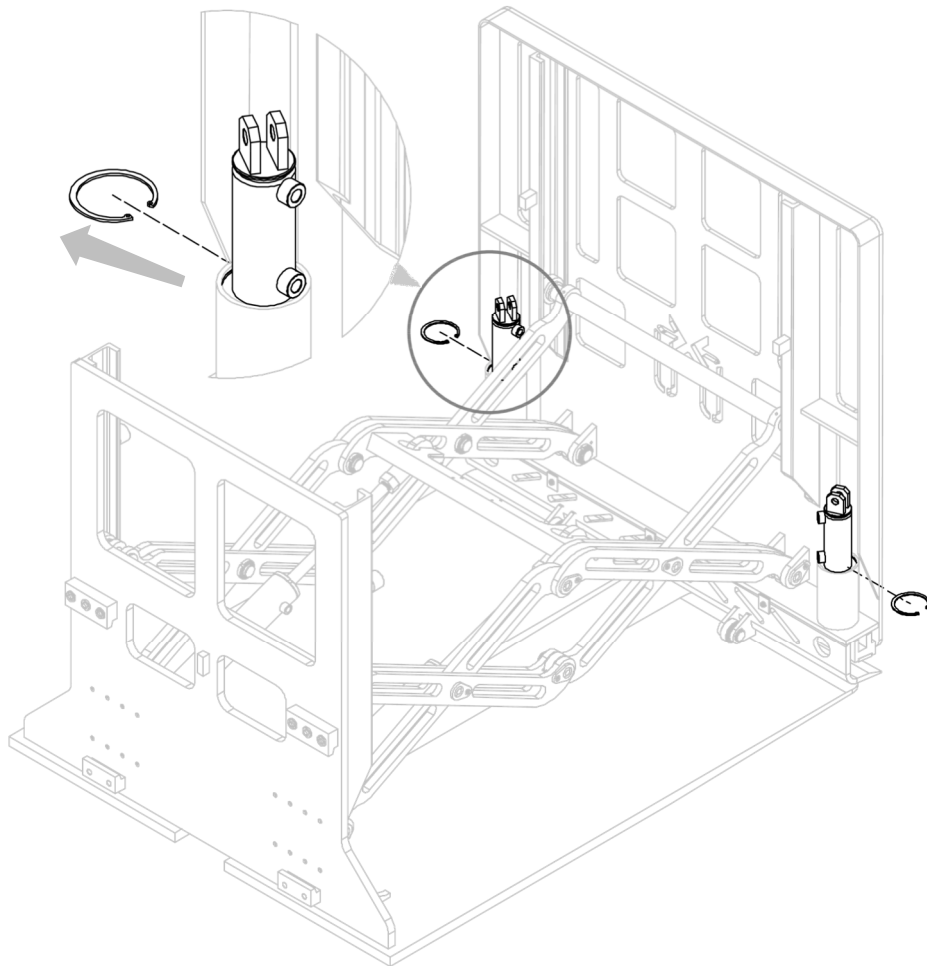

Figure 13
2. Remove the snap rings that hold the cylinders (see *Figure 13*).